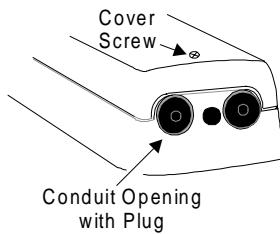

Figure 3: Location of Cover Screw and Conduit Plugs
1. Loosen the actuator cover screw with a Phillips No. 1 screwdriver, and remove the actuator cover. (See Figure 3.)
2. Use fingertip to push the plastic plug out of the conduit opening, closest to the M9100 power terminals. (See Figure 3.)